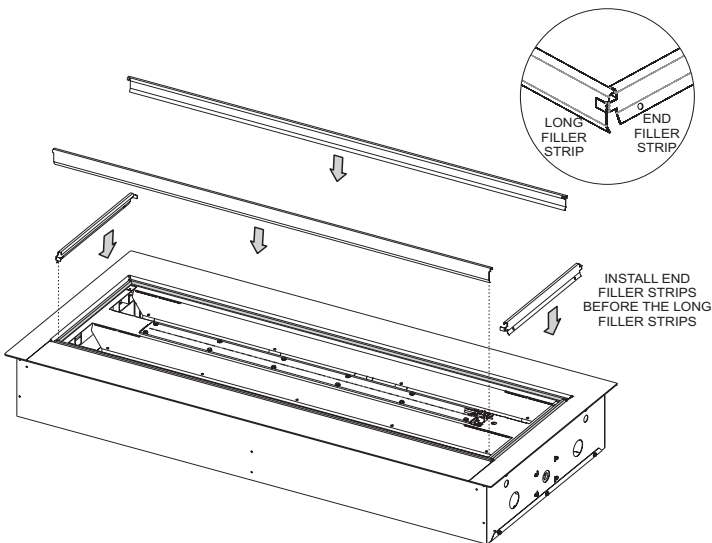

Figure 27a
2. Install the (4) filler strips. Place the two short side filler strips in first, then install the long front and rear filler strips. The long filler strips will interlock at the ends with the side filler strips. See **Figure 27a**.